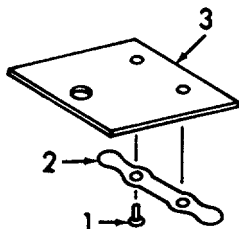

Figure 6-50. Slide Plate, Disassembly.
b. *Disassembly (Refer to Figure 6-50).*